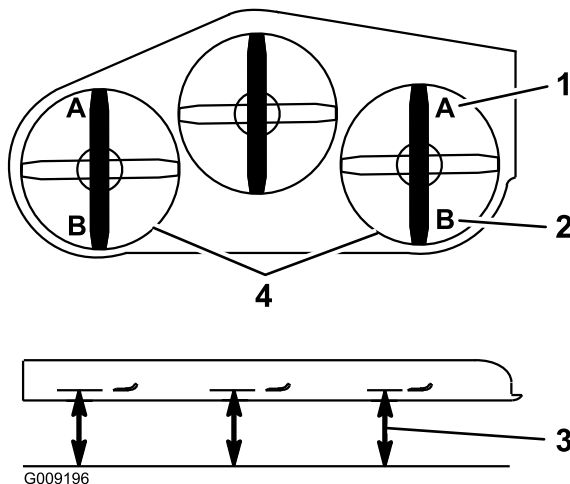

Figure 86
9. On both sides of the deck, measure from the level surface to the front tip of the blade (Position A). The measurement should read 7.6 mm (3 inches); refer to Figure 86.
15. On both sides of the deck, measure from the level surface to the back tip of the blade (Position B). The measurement should read 8.3 cm (3-1/4 inches); refer to Figure 86.